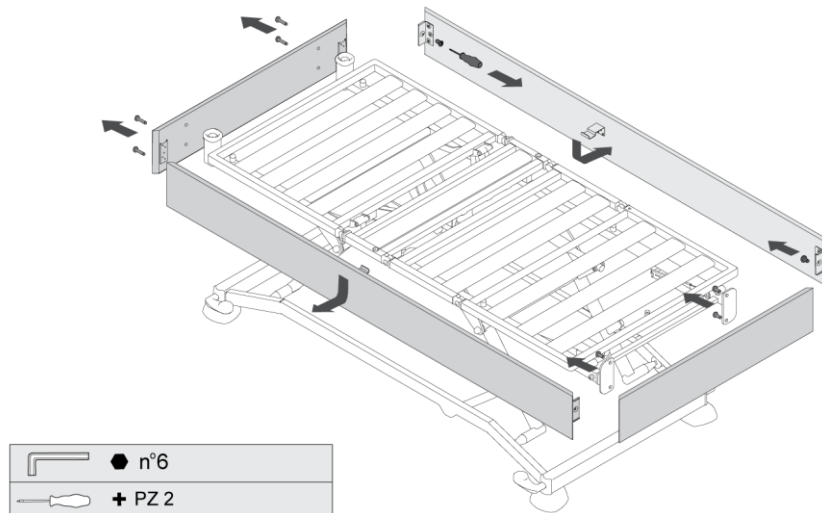

Figure 6.2: Removing of the side panels, head and foot panel
- Remove the side panels by using a screwdriver like shown in fig 6.2.